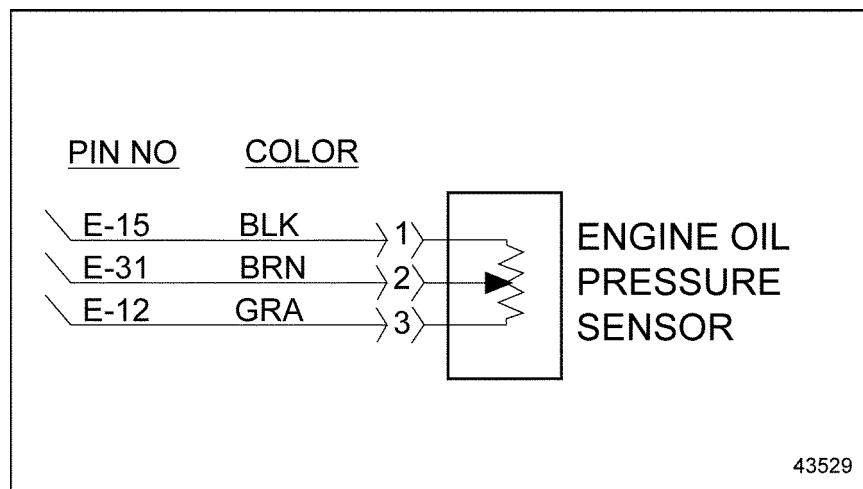

Figure 39-3 Engine Harness Connector to Oil Pressure Sensor
2. Disconnect the Engine Harness connector at the ECM/ECU. See Figure 39-3.